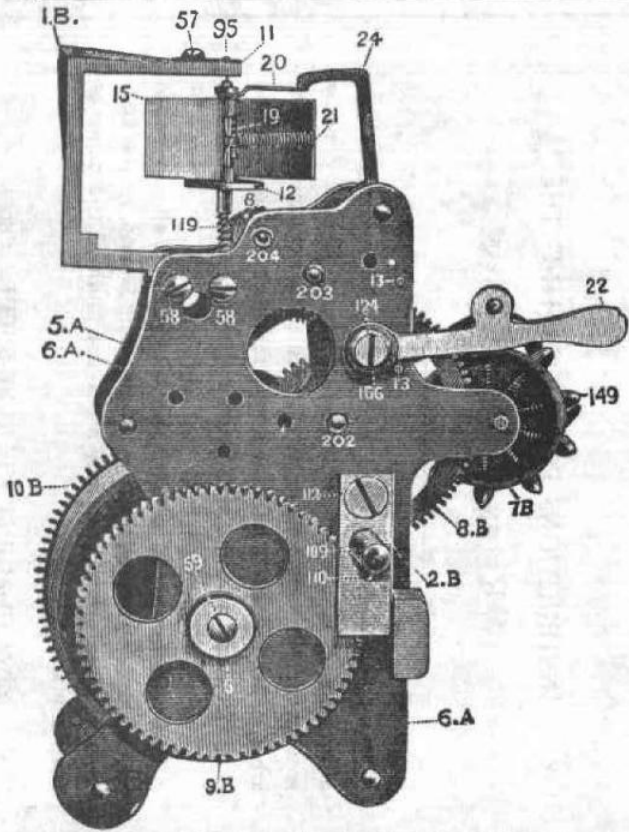

FIG. 2.
**T**HE music-playing sub-assembly was removed from the cabinet and laid on the bench. Then the combs were carefully removed, the central spigot taken off and the star wheels dismantled by drawing out the shaft on which they revolve. The shaft is held in place by one  $\frac{1}{8}$  in. pin. Here arose the first small snag. It was felt necessary to keep the star wheels in their correct order (a niggling job, with so many to be looked over and touched up) because of a difference in wear as between those at the bass end and those at the treble end of the scale. This difference is due to the fact that the bass tuned teeth are much stiffer and heavier than the treble ones. Some of the star wheels had been "bashed" and had lost one or more of their teeth (these totalled 8) and some were bent. It was proposed to copy good star wheels and thus produce replacements for the broken ones and to straighten the bent ones. Of 16 bent star wheels, only 7 were salvaged, leaving 17 to be replaced. Having no suitable equipment for machining such profiles, the new ones had to be made in a filing jig—in three batches of seven, thus leaving 4 surplus. The method adopted was as follows. Steel blanks were turned up on the lathe to full outer diameter and correct thickness and were bored to fit the shaft. Bored because the shaft is an odd—probably a millimetre—size. The exact outer diameter of a 9-pointed star wheel in new condition was not ascertainable, therefore blanks were made a few thou. larger in o.d. than the worn star wheels. All burrs were removed and precautions taken to see that the blanks were dead flat. They cannot work unless they are. A headed and threaded mandrel was turned in M.S., the mandrel stem being a good fit in the bore of the blanks, see Fig. 2. Two of the best star wheels were selected and case-hardened. One of these was threaded on to the mandrel until it rested against the head (which is smaller than the root diameter of the
Below: Fig. 2. Mandrel for star wheel filing jig, in steel
Any kind of machinery, no matter how well constructed, needs occasional oiling, and although the "Regina" requires it less frequently than other music boxes, partly because of the fact that its movement is better protected, eventually it becomes necessary, and the necessity will be apparent when the instrument begins to run slow. In that case unscrew the board on each side of the bed plate and apply with a tooth-pick or small wire a drop of oil to the worm 119, (Fig. 2 and 3).
Then take the instrument out carefully and lay it on two blocks or boxes, so as to conveniently gain access to the underside thereof, and put a drop of oil on the following parts. (See Fig. 2 and 3).
*First.*—The worm (119) on the shaft on which the fly or governor is mounted.
*Second.*—In the small oil-hole leading to the outer pivot of the fly or governor shaft. (11, Fig. 2).
*Fifth.*—On the winding post (109, Fig 2). Should the worm 119 and wheel 8, which gears therewith need cleaning, it can be accomplished with a soft tooth-brush dipped in benzine, after which the parts should be properly lubricated, as above described.
In case any part of the movement has been damaged, a competent watchmaker or jeweler should be called upon to make the necessary repairs. If, however, no jeweler or other person competent to make the repairs be at hand, it will be preferable to express the movement (Fig. 2), or the whole instrument (Fig. 1) to our agent.
*First*, unscrew lever, (22, Fig. 2).
The movement (Fig. 2) can be packed and properly secured with paper or excelsior, in a small box, so that it will not become displaced or broken in transportation.